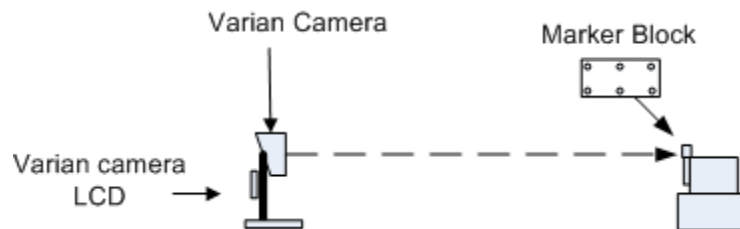

Figure B-1: Alternate Camera/Breathing Phantom setup
3. Tape the Marker block to the plastic tab on the Breathing Phantom. (Refer to figure B-1). The Marker Block should be taped so the 6 "Dots" can be setup to face the Varian Camera and the rotation of the wheel on the Phantom is free to turn, which will move the plastic tab and Marker Block during its rotation. (The camera must "See" these 6 dots moving up and down).